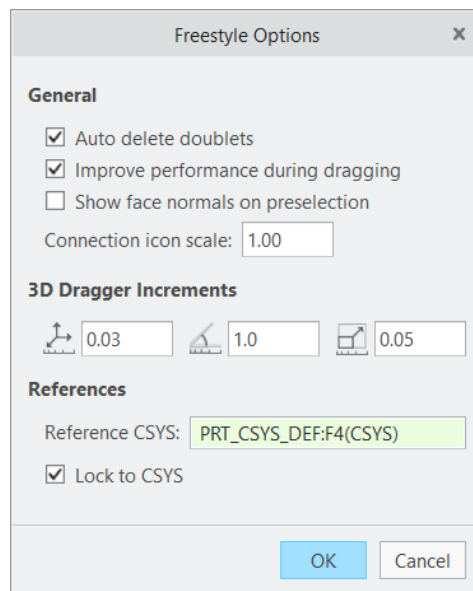

Figure 15-134 The **Options** dialog box
2. Choose the **Options** button from this drop-down list; the **Options** dialog box is displayed, as shown in Figure 15-134.